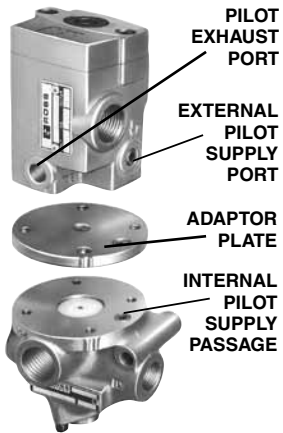

Figure 12
**INLINE POPPET VALVES:** See Figure 12.